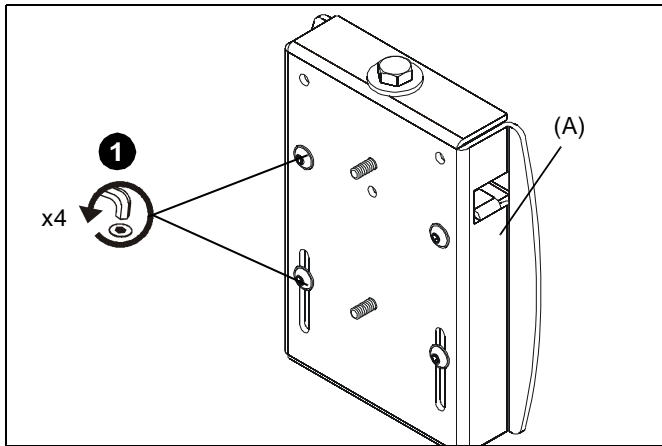

Figure 1
1. Verify mounting brackets on wall bracket (A) can move freely. (See Figure 1)